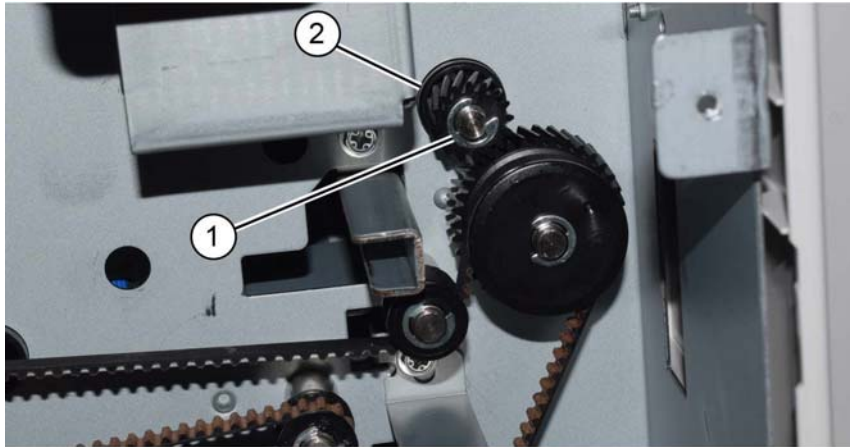

Figure 5 Gear removal
3. Remove the E-clip (1), then the gear (2), Figure 5.